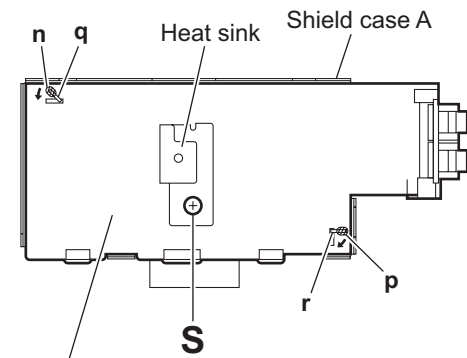

Fig.22
- From the forward side of the digital amplifier board, remove the screw **S** attaching the heat sink. (See Fig.22.)
- Remove the solders from the soldered sections (**n, p**) and bend the sections (**q, r**) of the shield case A in the direction of the arrow. (See Fig.22.)